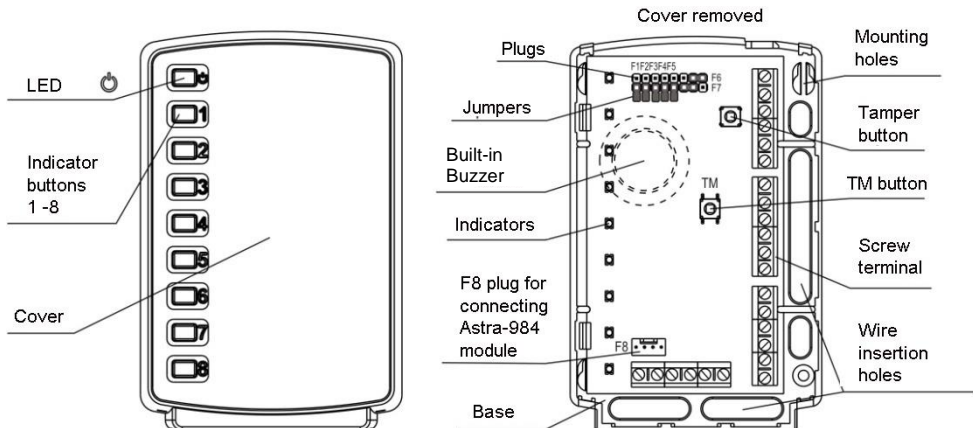

Figure 1
4.1 The unit's structure is a block consisting of a base and a removable cover. Inside the block is a circuit board with radio elements. (Figure 1).